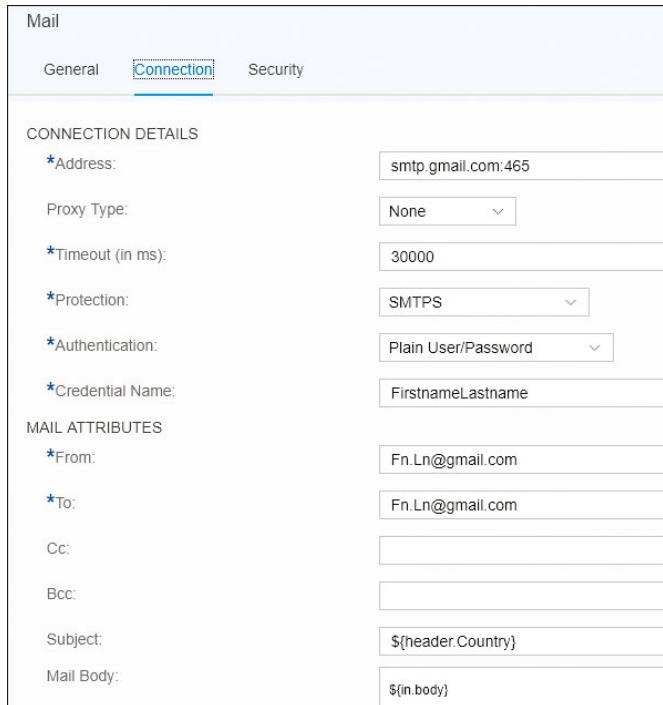

Figure 6.14 Mail Adapter with Dynamically Configured Subject Attribute
6. Configure the mail adapter as shown in Chapter 2, Section 2.3.4. Figure 6.14 shows the **Connection** settings of the adapter.